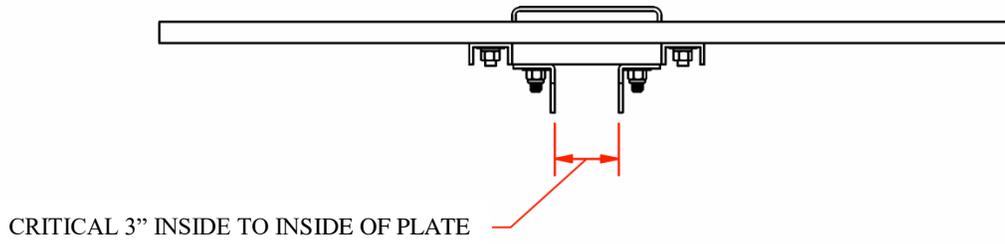
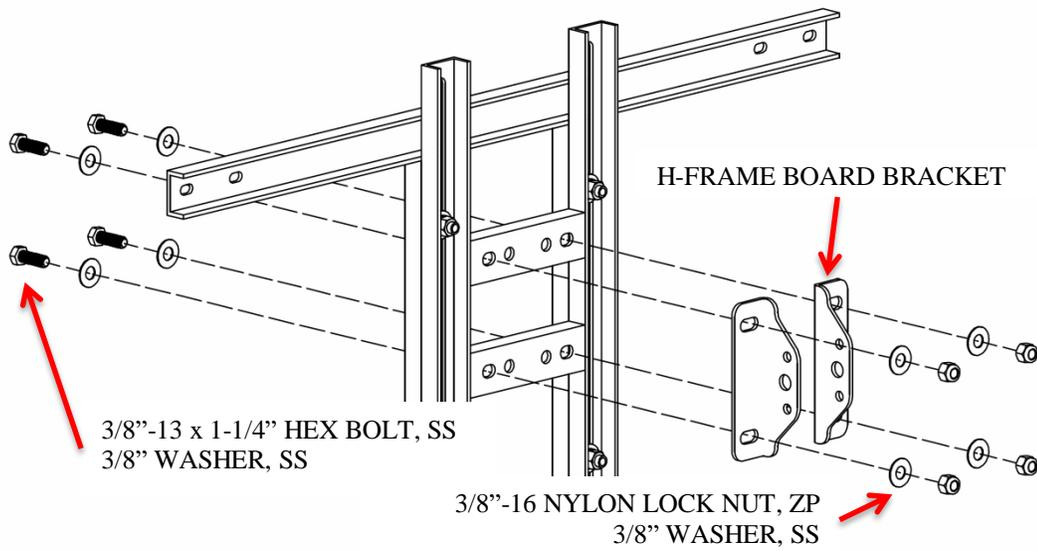

Figure 4
Figure 3
3. Attach H-Frame board bracket to the inner H-Frame slot channel holes. Use 1/2" hex bolt hardware as shown (*Figure 3*). Set the distance between brackets to be 3-3/8" as shown (*Figure 4*). Do not tighten hardware.